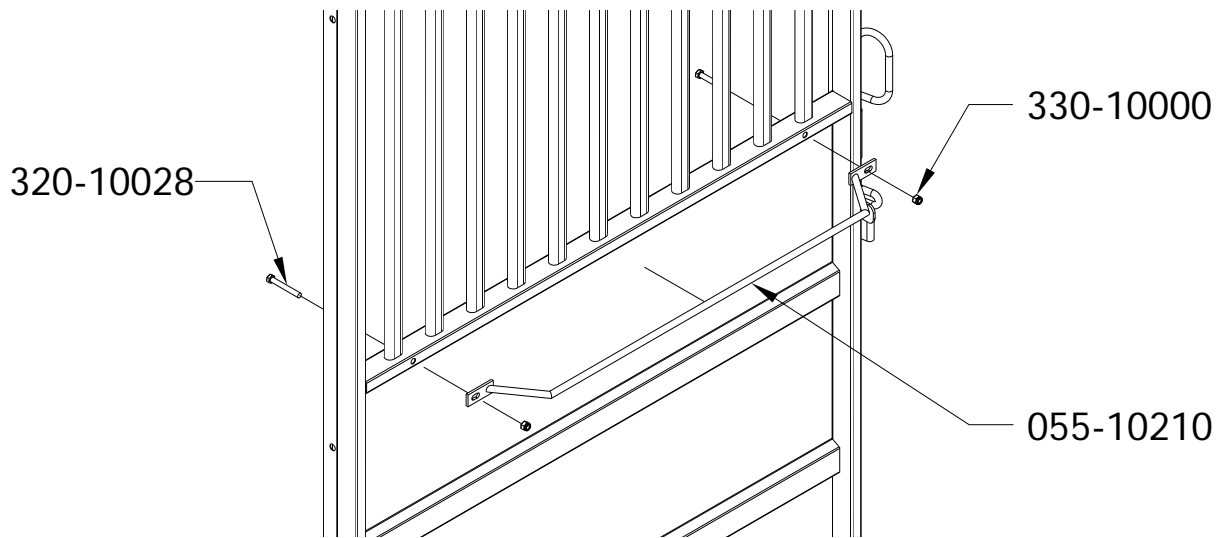

Figure 12
Bolt the door handle to the door using (2) 3/8" x 2-3/4" hex bolts, 3/8" washers, and 3/8" lock nuts (see figure 12).